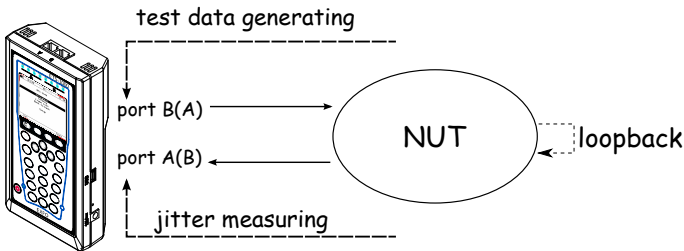
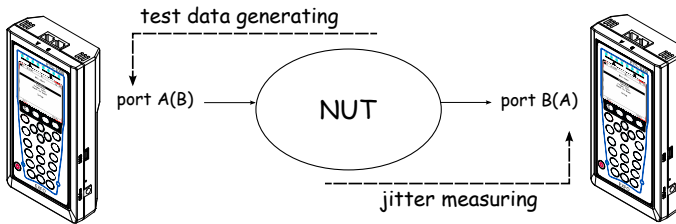

Figure 5.90. Jitter measurements. Scheme 2
Figure 5.91. Jitter measurements. Scheme 3
- test data is generated at one port, and then jitter is measured at another one (see fig. 5.90); in this case, destination port could be a port at a remote device (see fig. 5.91).